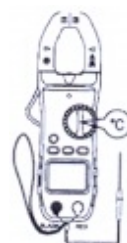

Fig.11
(1) Turn the rotary function switch to the °C position. Plug the black test lead (negative) of thermocouple into "COM" terminal and the red test lead (positive) of thermocouple into "VΩ" terminal (fig.11)